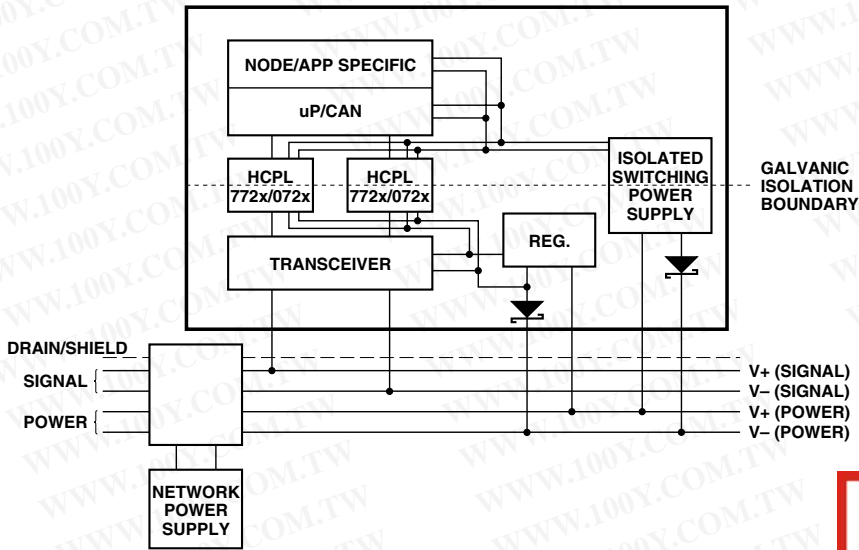
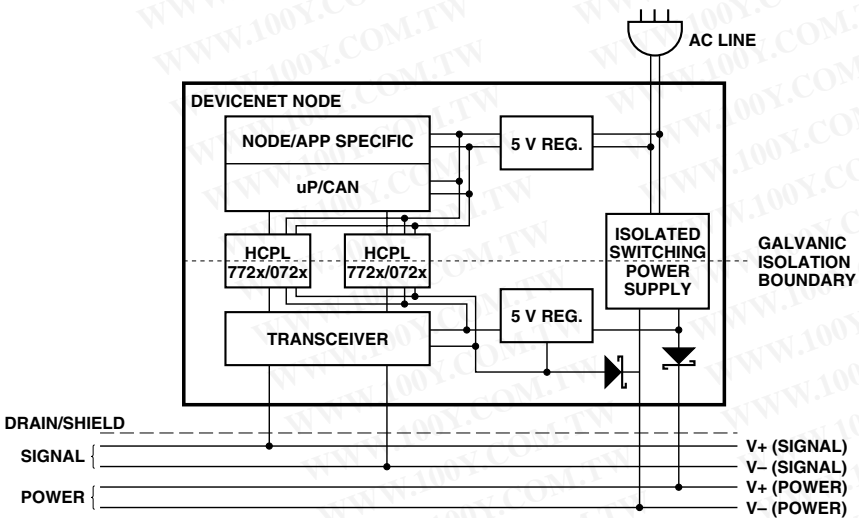

Figure 18. Isolated node powered by the network.
Figure 20. Isolated node providing power to the network.
With transmission rates up to 1 Mbit/s, both DeviceNet and SDS are based upon the same broadcast-oriented, communications protocol — the Controller Area Network (CAN). Three types of isolated nodes are recommended for use on these networks: Isolated Node Powered by the Network (Figure 18), Isolated Node with Transceiver Powered by the Network (Figure 19), and Isolated Node Providing Power to the Network (Figure 20).
This type of node is very flexible and as can be seen in Figure 18, is regarded as “isolated” because not all of its components have the same ground reference. Yet, all components are still powered by the network. This node contains two regulators: one is isolated and powers the CAN controller, node-specific application and isolated (node) side of the two optocouplers while the other is non-isolated. The non-isolated regulator supplies the transceiver and the non-isolated (network) half of the two optocouplers.
Figure 20 shows a node providing power to the network. The AC line powers a regulator which provides five (5) volts locally. The AC line also powers a 24 volt isolated supply, which powers the network, and another five-volt regulator, which, in turn, powers the transceiver and isolated (network) side of the two optocouplers. This method is recommended when there are a limited number of devices on the network that don't require much power, thus eliminating the need for separate power supplies.